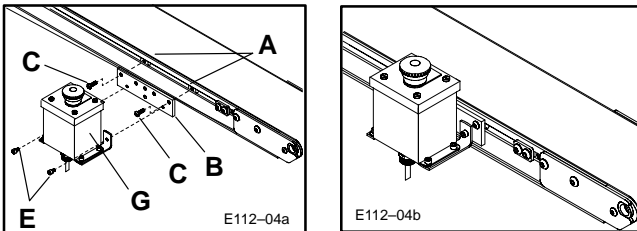

Figure 4: E-Stop Vertical Mounting to Conveyor T-slot
2. Select the desired location and mount the E-Stop Kit either in the conveyor T-slot or on any one of the aluminum or steel Support Stand Vertical Legs (Figures 4 through 9).
- b. Select the desired location and attach the unit to the conveyor T-slot in the manner shown in Figure 4. Attach the Pushbutton Box assembly with Mounting Brackets (in the same way it was packaged, when shipped) to the two Single Drop-in T-bars, using the M6 x 16 mm Button Head Cap Screws (C). Tighten Screws with 4 mm Hex Key Wrench (K) provided.